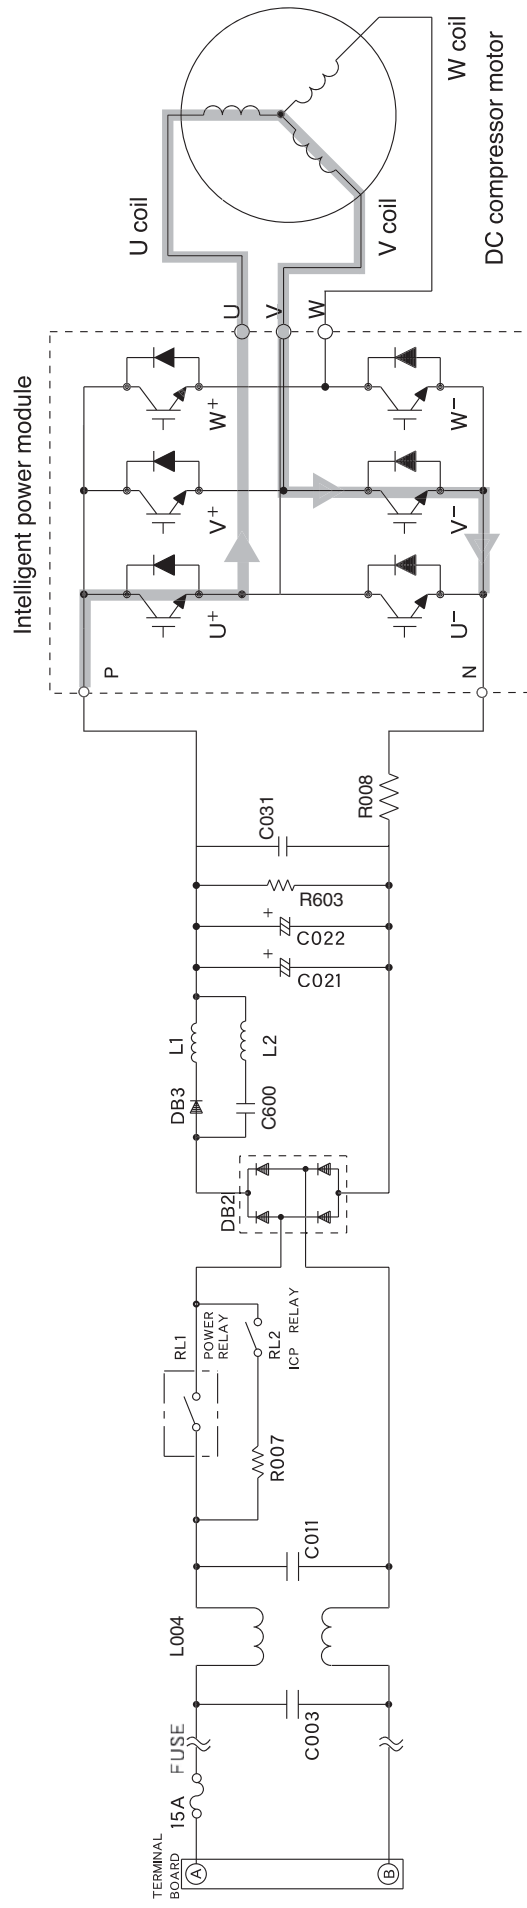
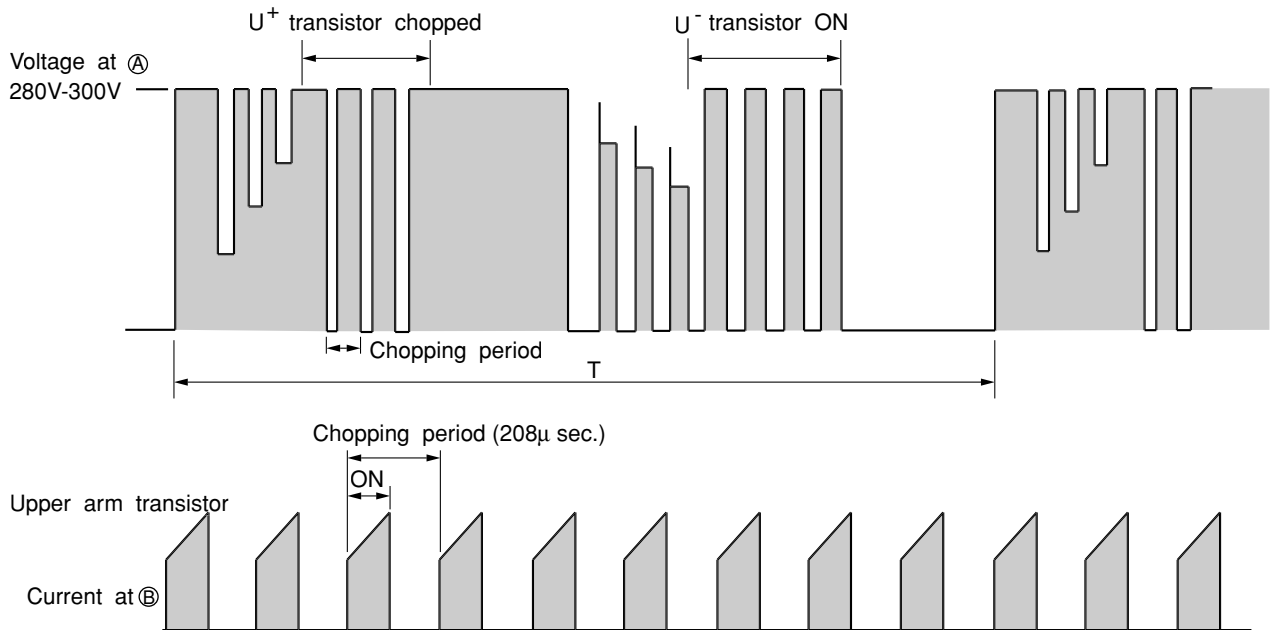

Fig. 9-1 System power module circuit (U+ is ON, V- is ON)
Fig. 9-3 Voltage waveform at each point
Fig. 9-1 shows peripheral circuits of intelligent power module (IPM).
At point ⑤: U+ is ON, V- is ON (circuit in Fig. 9-1)
Fig. 9-3 shows voltage waveform at each point shown in Figs. 9-1 and 9-4. First half of upper arm is chopper, second half is ON, and first half of lower arm is chopper, second half is ON.
- (1) When U+ transistor is ON: U+ transistor → U coil → V coil → V- transistor → DC current detection resistor → Point ⑥ (Fig. 9-3)
Since current flows at point ② only when U+ transistor and V- transistor are ON, the current waveform at point ② becomes intermittent waveform as shown in Fig.9-3. Since current at point ② is approximately proportional to the input current of the air conditioner, input current is controlled by using DC current (Id) detection resistor.